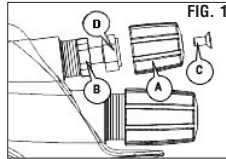

FIG. 1
- f. Disassembly of pattern adjustment set (5) and/or air adjustment set (15). In order to disassemble pattern adj. set (5) and/or air adj. set (15), first of all unscrew countersunk socket head screw Torx T10(C) and remove adjustment knob (A) by pulling out it carefully, as illustrated in Fig.1.
- Then manually turn the hexagon knob (D) of the adjustment counterlockwise to open it completely and unscrew the hexagon face (B) with a spanner turning it counterclockwise.
- To reassemble pattern adjustment set (5) and/or air adjustment set (15), reverse the procedure.
IMPORTANT: Before reassembling pattern adjustment set and/or air adjustment set, make sure that these operations are carried out with the adjustment fully open (Fig.1).